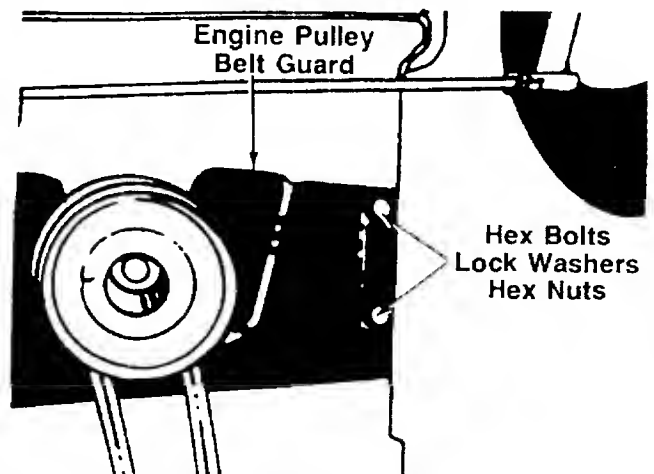

FIGURE 24.
5. Remove the two bolts, lock washers and nuts on each side of the frame which hold the engine pulley belt guard to the frame. See figure 24.